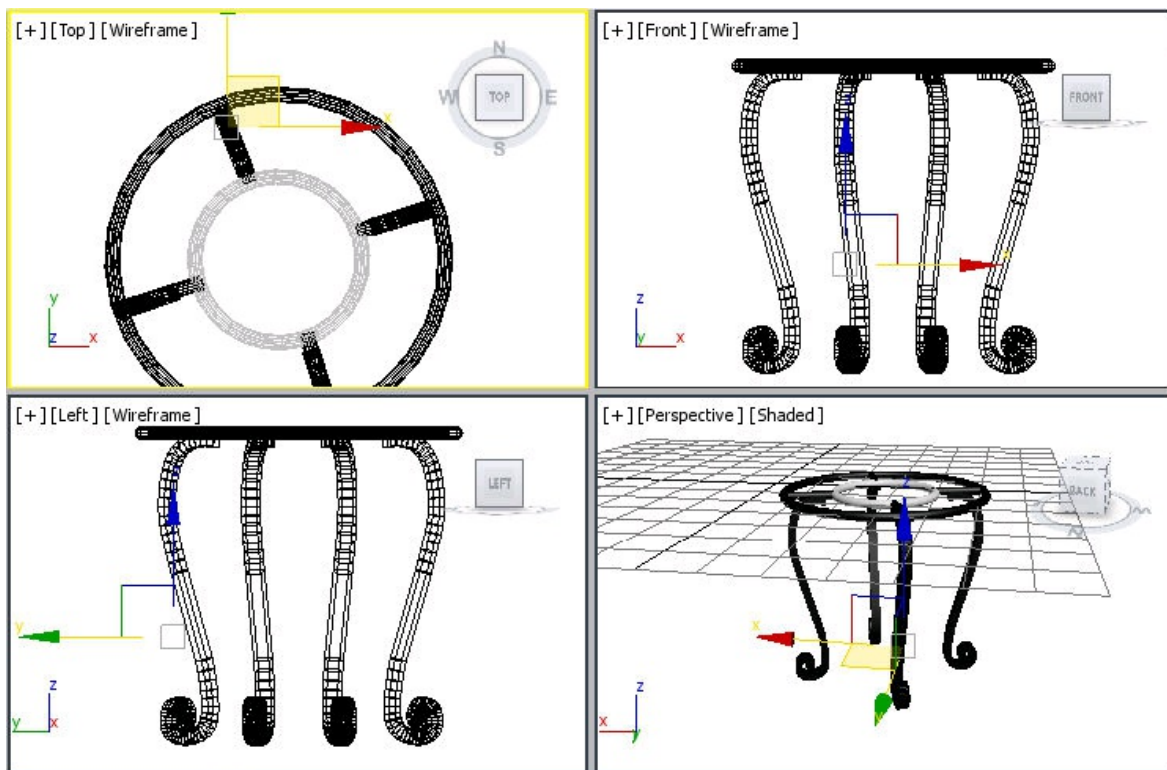

Figure 6-82 Alignment of leg01, leg002, leg003, and leg004 in viewports
24. Align *leg01*, *leg002*, *leg003*, and *leg004* using the **Select and Move** and **Select and Rotate** tools, as shown in Figure 6-82.